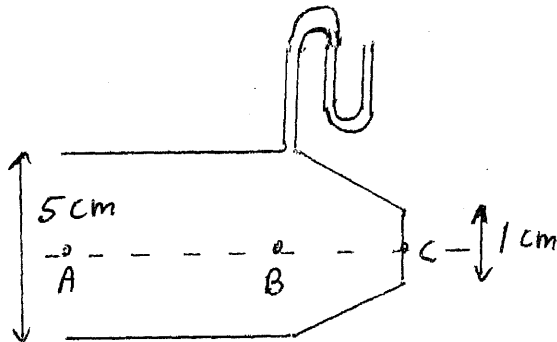

FIGURE 2
2) Water (of density  $1000 \text{ kg/m}^3$ ) flows through the horizontal pipe AB and discharges to the atmosphere through the nozzle BC as shown in Figure 2. The diameter of AB is 5 cm while the diameter of the exit of the nozzle is 1 cm.